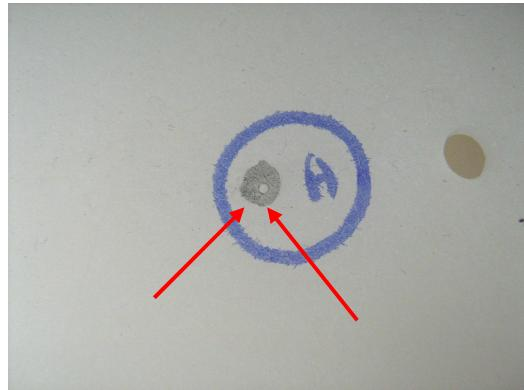
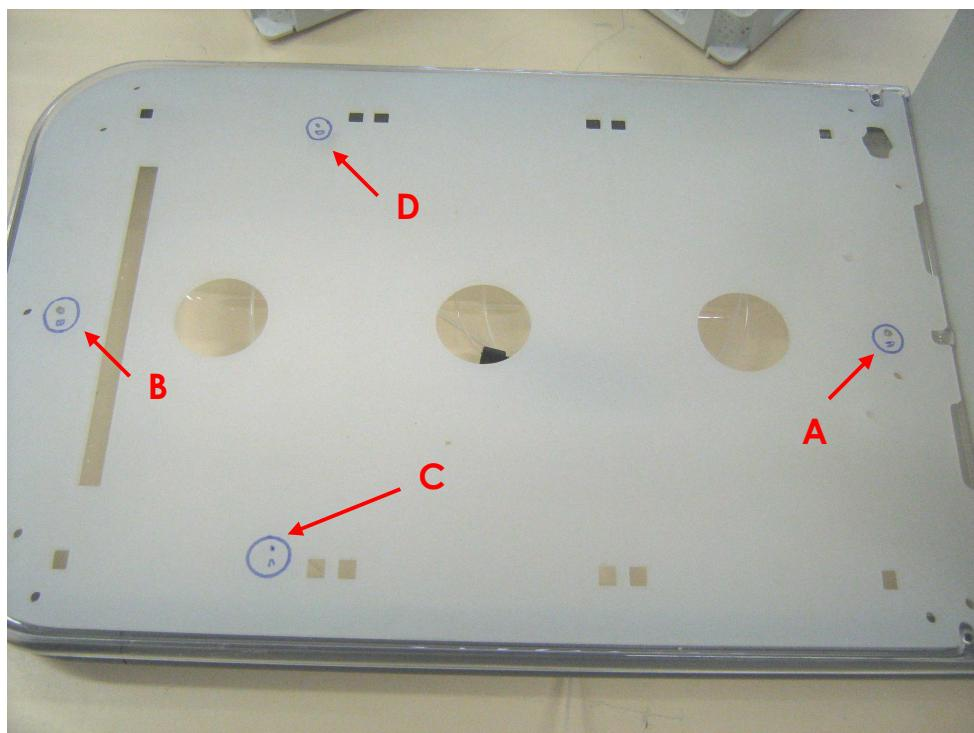

Figure 5: Example Dimple in Position "A"
Figure 6: White Sample Rack Holder Tray with 4 Dimples
7. Remove the sample racks from the Fraction Collector tray. With the sample racks off the tray you should be able to see 4 small dimples (Figure 5) in the white plastic rack holder (Figure 6). Each of these dimples corresponds to a position (A, B, C, D).